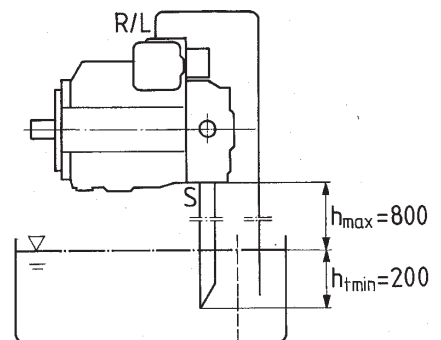

Fig. 4
b) When the minimum fluid level lies under the pump upper edge then: drain port and possibly port »S« has to be piped, see fig. 4. Conditions are as per point 1.2. Fill pump casing before commissioning.
a) For installation above a tank see fig. 4. Conditions are as per point 1.2.